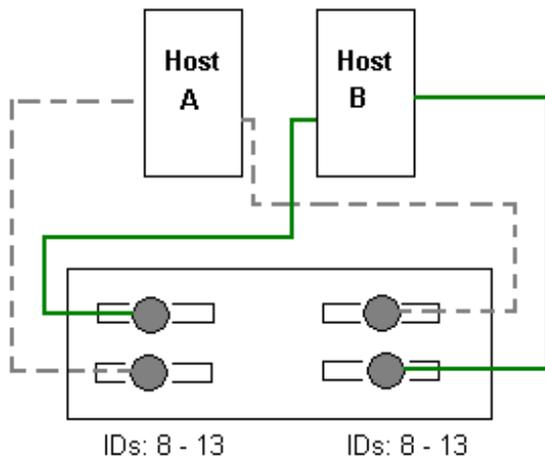

FIGURE B-4 Dual Host, Dual Bus, Multi-Initiator JBOD Configuration
FIGURE B-4 shows a multi-initiator, dual bus configuration where each host is connected to each host channel. This configuration is common for failover protection in a network cluster environment.
1. Connect each JBOD port to a host as shown in FIGURE B-4.